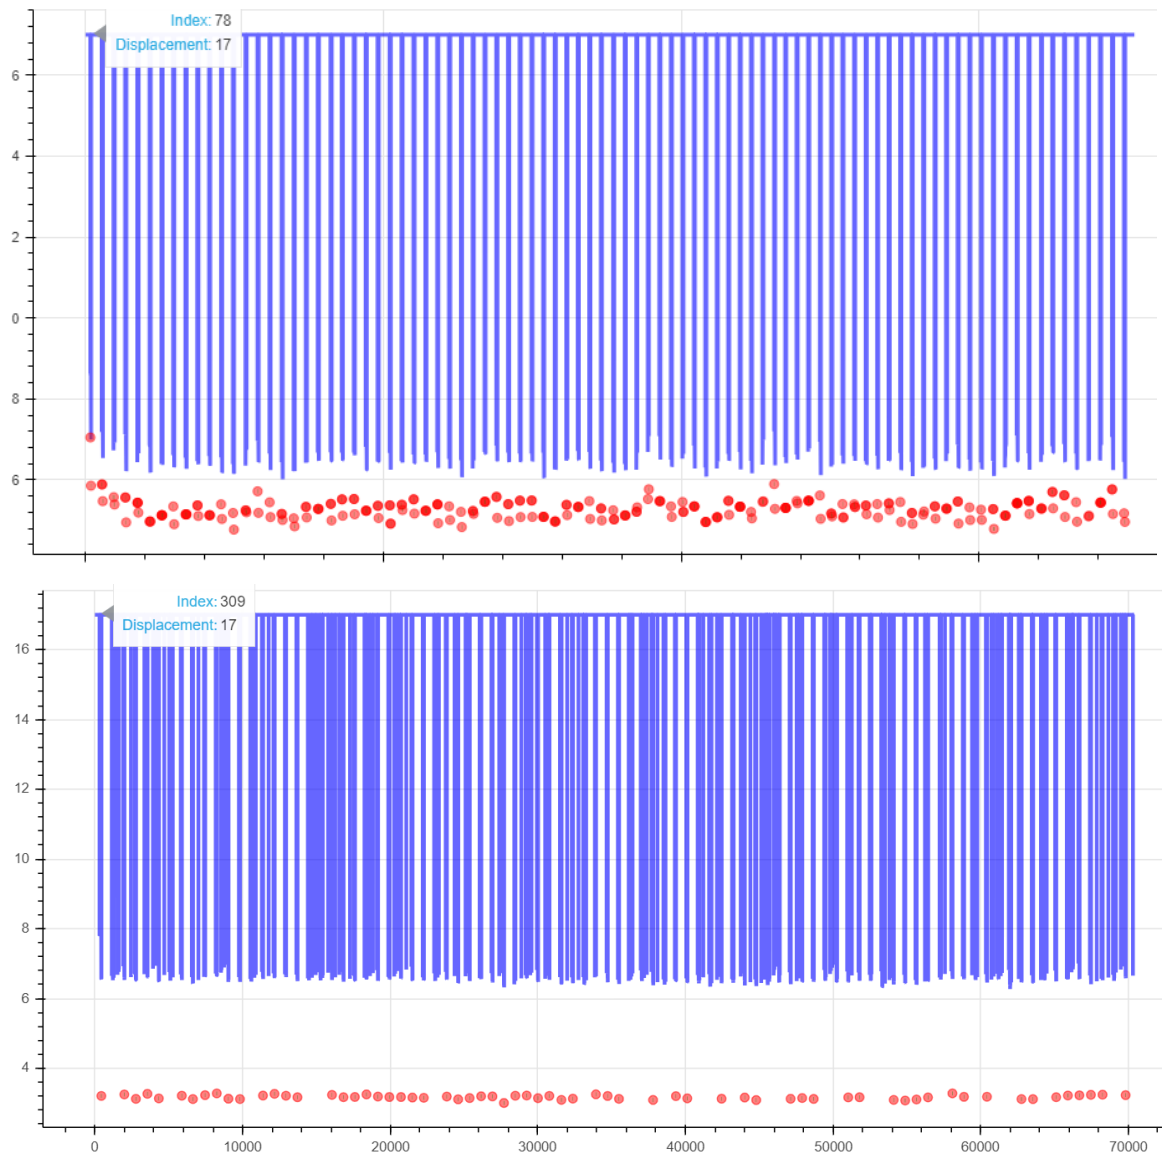

Figure 45 Noisy Data
- 7.1.6.** Figure 45 Noisy Data can be caused when the sample frequency is incorrectly set or the Points Between Blades is incorrectly calculated